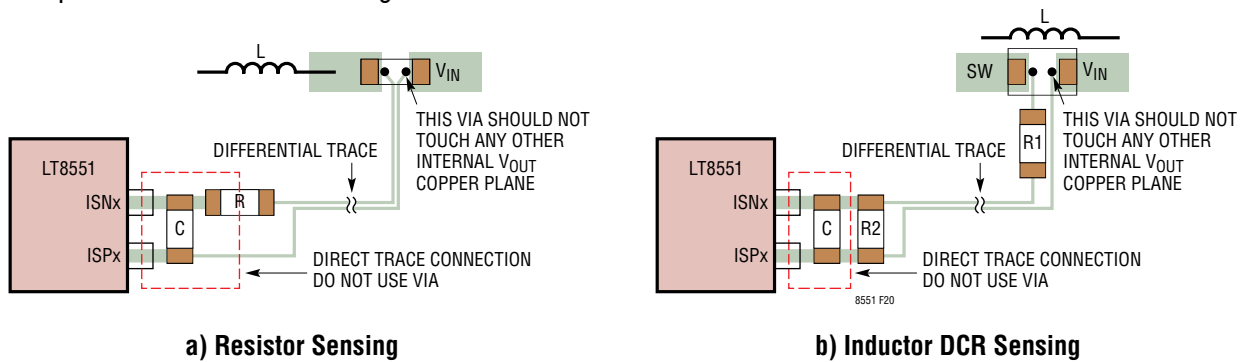

Figure 20. Current Sensing PCB Design
- Of all the small signal traces, current sensing traces are most sensitive to noise. The current sensing traces should be routed differentially with minimum spacing to minimize the chance of picking-up noise, as shown in Figure 20. In addition, the filter resistors and capacitors for current sensing traces should be
placed as close to the ISPx/ISNx pins as possible. If the DCR sensing is used with an R/C network, the DCR sensing resistor R1 should be close to the inductor, while R2 and C should be close to the IC. Place the vias that connect the ISPx/ISNx lines directly at the terminals of the current sensing resistors or the inductors as shown in Figure 20.